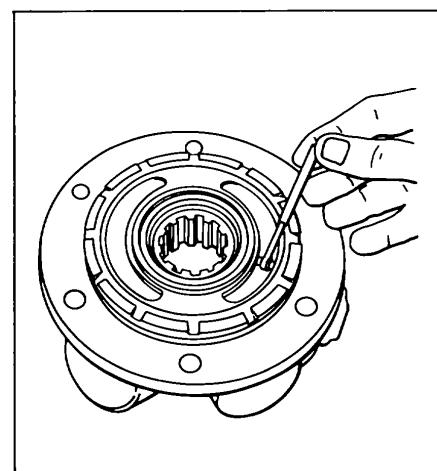

Figure 114.
b. Measure the width of the cover kidney, near the mid point, as illustrated. See Fig.114.